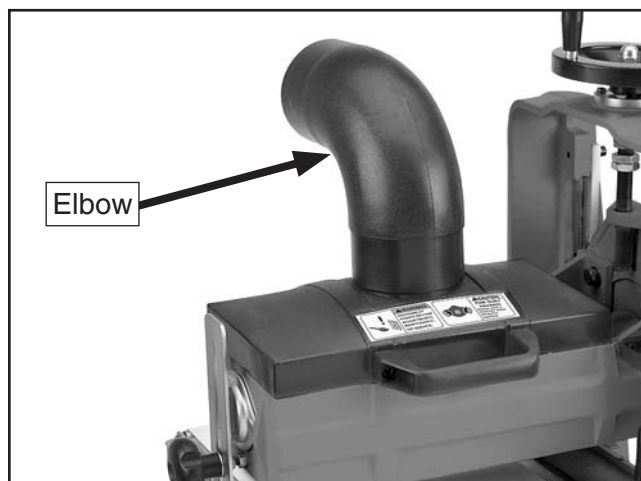

Figure 13. Dust collection elbow installed.
10. Install the dust collection elbow into the dust collection hood, as shown in **Figure 13**.